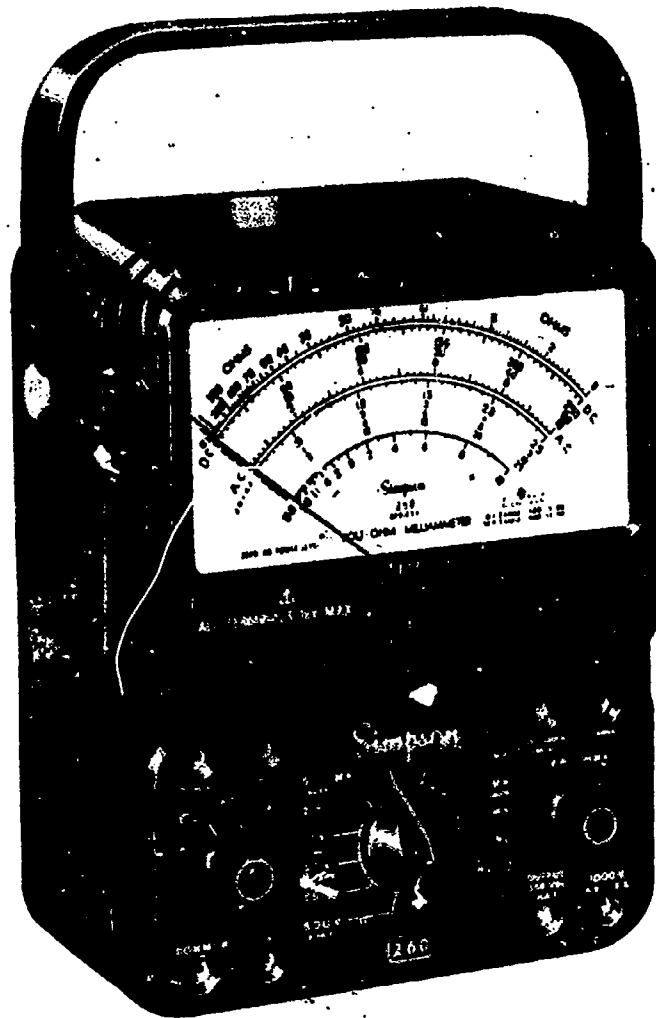

Fig 3-5. Simpson 260-6 Volt-Ohm-Milliammeter
- (2) Multimeter. The multimeter is a multipurpose instrument that can measure resistance, voltage, or current. Figure 3-5 shows a multimeter that is widely used in the Marine Corps. The following is an explanation of its use.